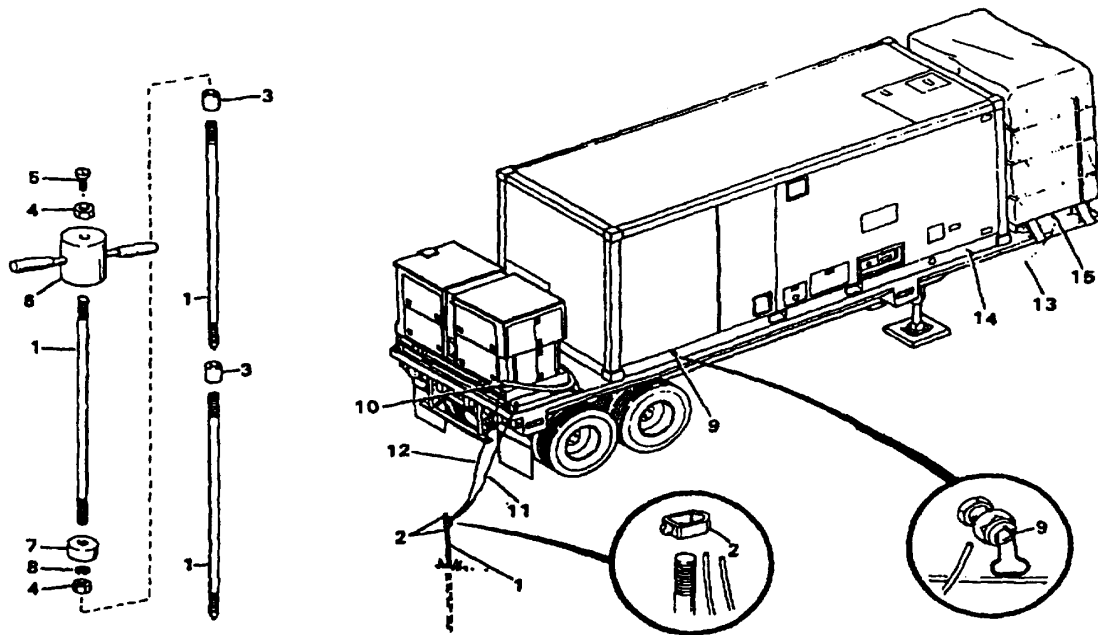

Figure 2-30. Ground Rod Installation (Sheet 1 of 2)
e. Ready Diesel Generator (Figure 2-30, Sheet 1 of 2). (MODEL WTA-060 ONLY)